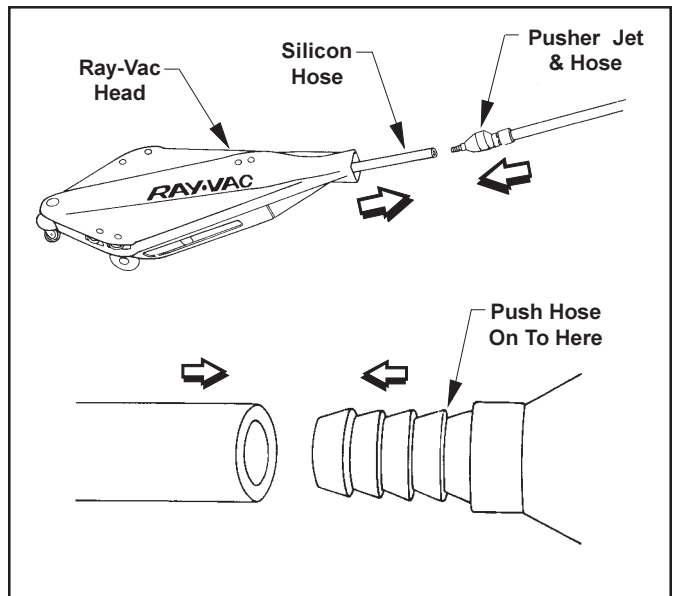

Figure 3. Attaching Pusher Jet Hose to Ray-Vac Head
2. Insert barbed end of pusher jet into silicon hose on Ray-Vac head. Be sure silicone hose completely covers barb and is on straight (see Fig. 3).